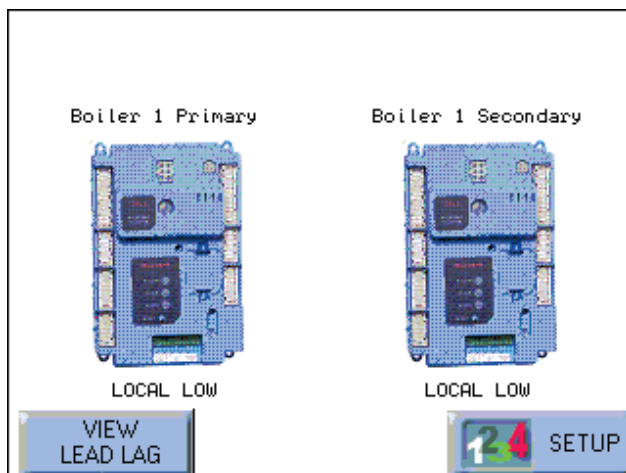

Fig. 65 – Home Screen
- Start at the Home screen on the first boiler. See Fig. 65.